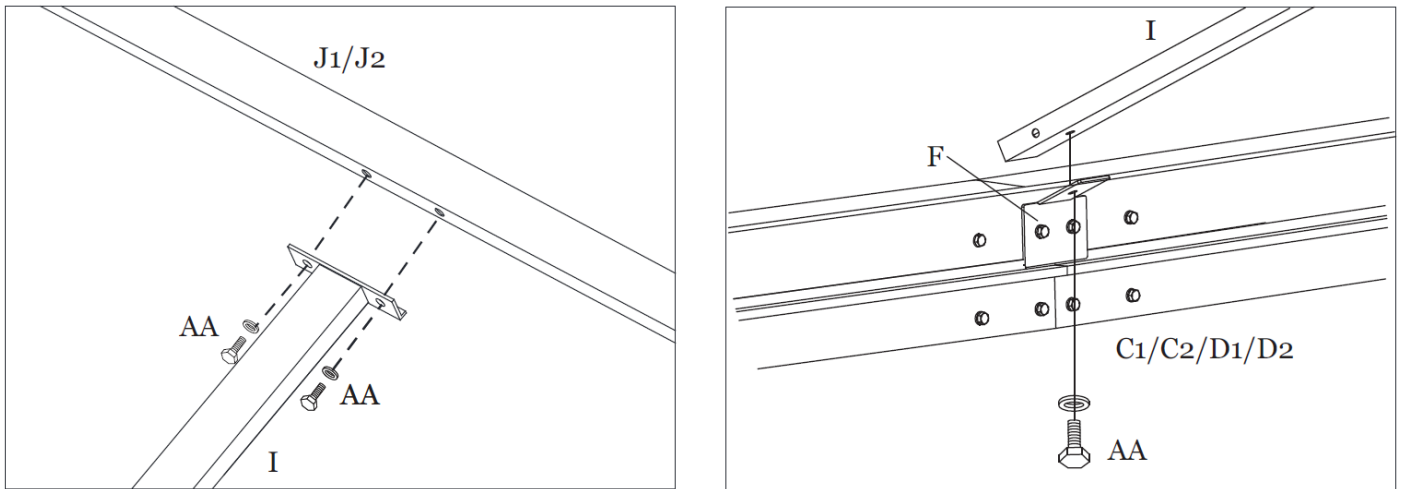

Figure 7-3
Step 7C: Attach the Main Roof Vertical Center Supports (I) to the Main Roof Center Frame (J1 and J2) and the Lintel Brackets (F) using Bolts (AA). **Hand Tighten Only.** See Figure 7-3.